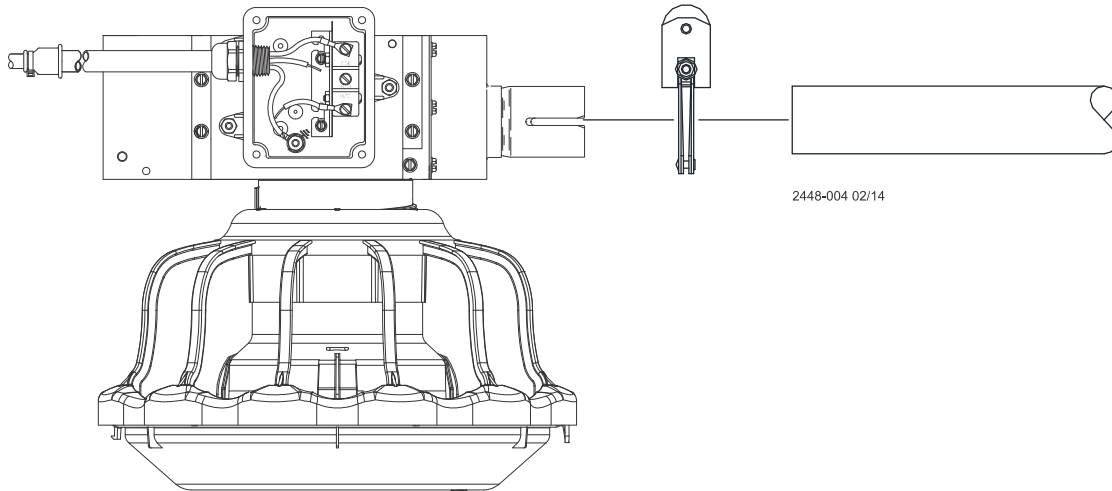

Figure 26. Connecting End Control Unit to the Feed Line Tube
1. Assemble the End Control Unit to the Feeder Line Control Tube using a clamp/anti-roost bracket. See **Figure 26**. **DO NOT INSTALL THE POWER UNIT AT THIS TIME.**